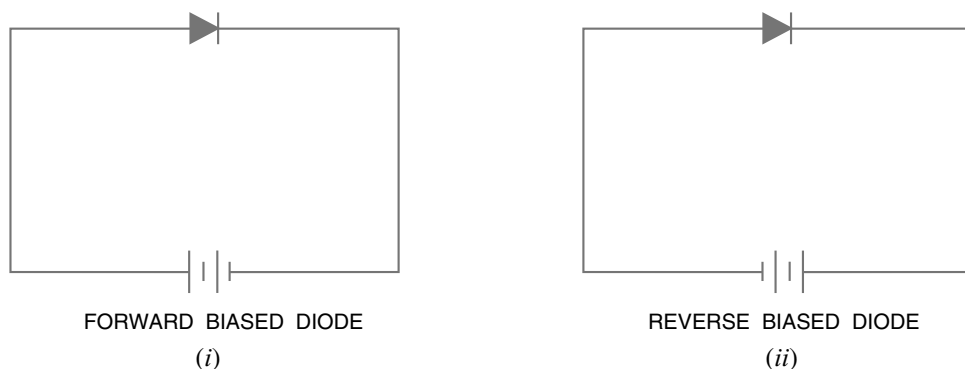

Fig. 4.2
- (i) If *arrowhead* of diode symbol is *positive w.r.t. bar* of the symbol, the diode is forward biased [See Fig. 4.2 (i)].
- (ii) If the *arrowhead* of diode symbol is *negative w.r.t. bar*, the diode is reverse biased [See Fig. 4.2 (ii)].